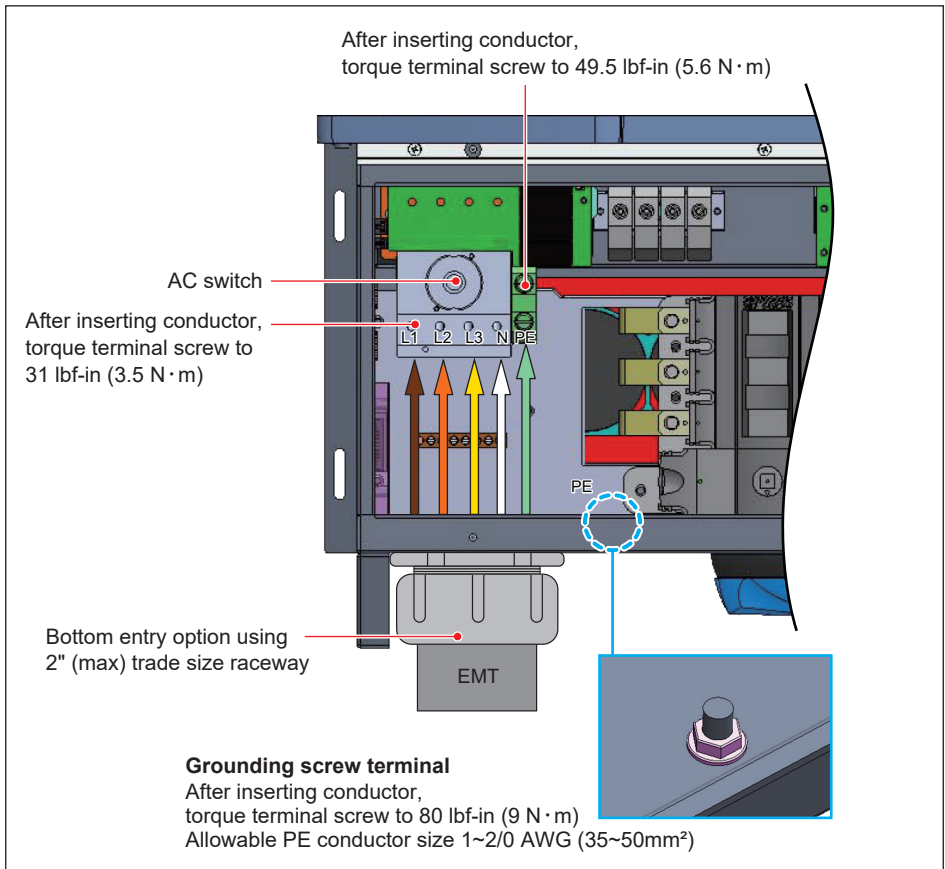

Figure 3-22: Two optional Locations for AC terminal (121 Model Without RSD)
- Insert the EGC (1~2/0 AWG) into the grounding screw terminal, torque value of 80 lbf-in (9 N·m). (see **Figure 3-22**)